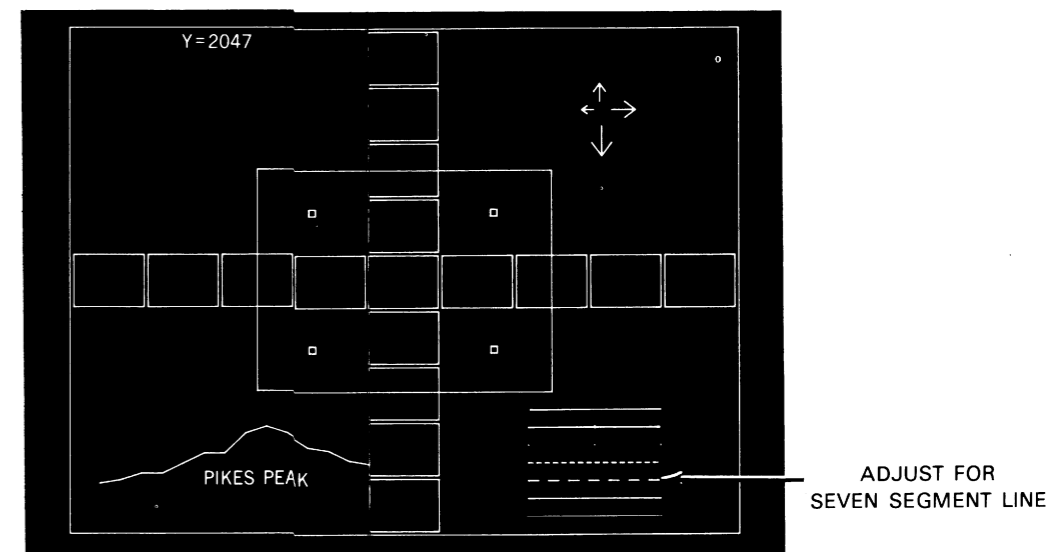

Figure 5-8. Writing Speed Adjustment
- c. Adjust Writing Speed (A1R70) for the seven segment line as shown in figure 5-8.